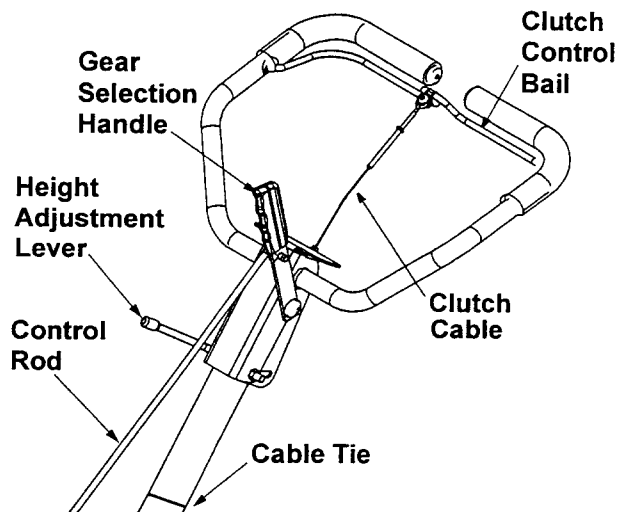

Figure 7
- Insert the longer end of the control rod through the hole in the gear selector handle and secure with hairpin clip. See Figure 7.
The gear selection handle is located in the center of the handle on the tiller. It is used to select NEUTRAL, REVERSE, or one of the FORWARD modes (see below). Pull or push the handle so that the indicator on top of shift cover points to the operating mode desired. See Figure 7.
The clutch control bail is located below the handle. See Figure 7. Lifting the clutch control bail against the handle engages the wheel and tine drive mechanisms.
## HANDLE ADJUSTMENT (See Figure 7)